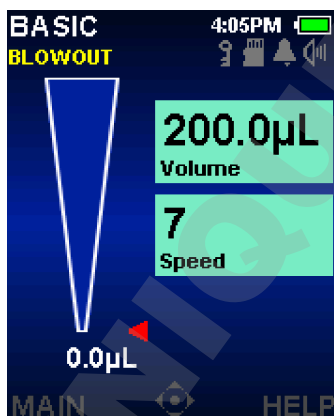

Figure 13: Basic Mode Blowout Operation.
3. If needed, ▼ or **RESET** for tip blowout. ▼ or **RESET** again as needed for more blowout(s) (Figure 13). For viscous solutions, pause before blowout. Note that Blowout is automatic, but you can also perform blowout manually to repeat. You can delay piston return time if desired by holding down the joystick.